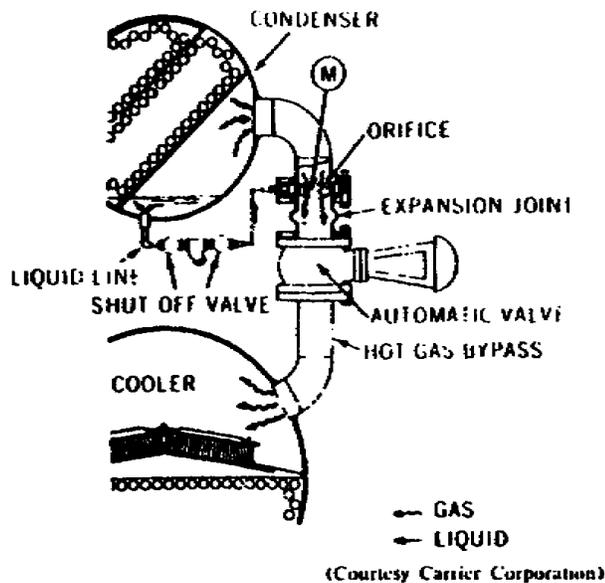

Figure 65. Hot gas bypass.
temperature, the returning chilled water temperature becomes an indication of the load. This temperature is used to control the hot gas bypass. A thermostat, set in the returning chilled water, operates to bleed air off the branch line serving the hot gas bypass valve. The thermostat is set to start opening the bypass valve slightly before the compressor hits its surge point. Figure 65 illustrates components and location of the hot gas bypass line.
3. The automatic valve shown in figure 65 is normally closed. When this valve is closed, there is no flow of gas through the orifice. The pressure at point M, just below the orifice, is the same as the condenser pressure; therefore, no liquid will flow through the liquid line. When the occasion arises for the need of hot gas, the valve is opened automatically and a pressure drop will exist across the orifice. The amount of pressure drop is a direct function in determining the rate of gasflow through the orifice. The larger the flow of hot gas through the bypass and orifice, the lower the pressure at point M will become in relation to the condenser pressure, and the greater will be the pressure differential to force desuperheating liquid through the liquid line. As the amount of hot bypass gas is increased or decreased by the opening or closing of the valve, the amount of